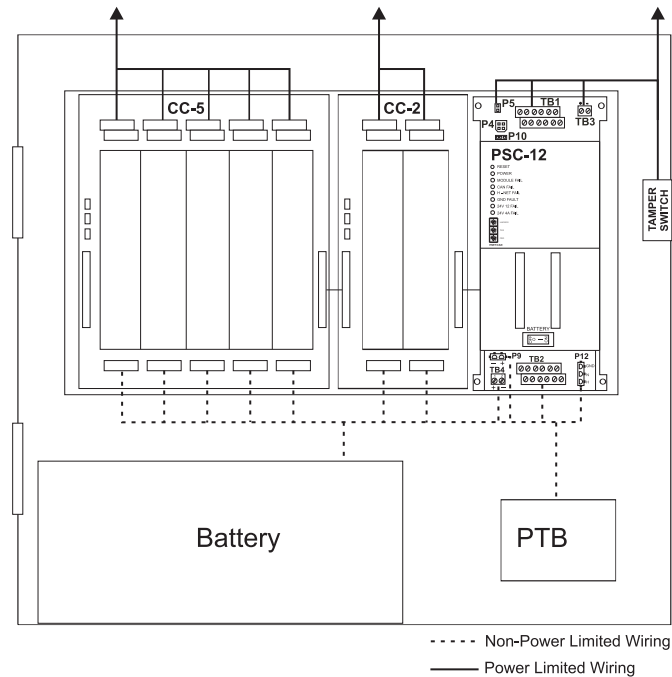

Figure 7
The PSC-12 has removable terminal blocks and connectors at the top and bottom of the module. The terminals and connectors at the top of the PSC-12 are power limited. The terminals and connectors at the bottom of the PSC-12 are non-power limited. (Refer to Figure 7.)
1. Using the 12 in. long wire assembly, connect the two batteries together, as shown in Figure 7. Secure each end of the assembly to the battery with a 10-32 x 3/4" screw and lock nut.